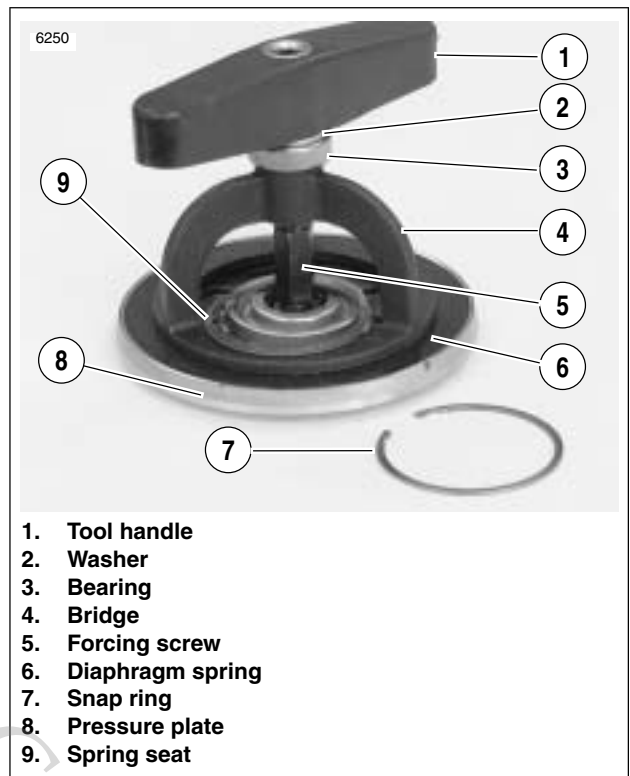

Figure 6-14. Pressure Plate Assembly
See Figure 6-14. Turn compressing tool handle only the amount required to release spring seat and remove snap ring. Excessive compression of diaphragm spring could damage clutch pressure plate.
5. See Figure 6-14. Remove pressure plate assembly.
See Figure 6-14. Turn compressing tool handle only the amount required to install spring seat and snap ring. Excessive compression of diaphragm spring could damage clutch pressure plate.